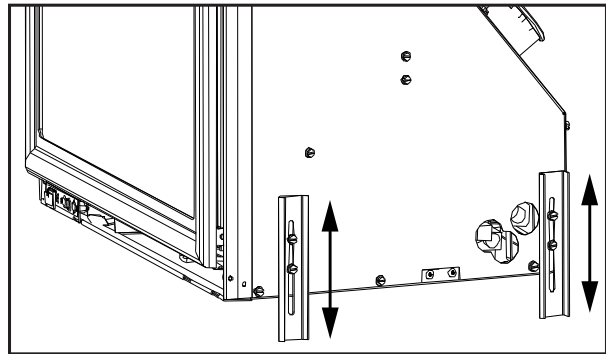

Figure 29: Levelling legs position.
5. If the fireplace opening is lower than 19" (483mm), remove the vent collar plate from the top of the insert by unscrewing the two (2) T-20 Torx screws located on the center top of the stove, and the four (4) screws at the rear draft hood box. Slide the collar plate backwards. Properly secure the vent collar plate to the flexible vent pipe liner(s) previously installed in the chimney. Be careful not to over-stretch the liner(s).
8. Using a 1/4" hex driver, adjust the levelling legs to ensure the unit is level and high enough if a base shelf and/or riser is to be installed. There are two (2) levelling legs on each side (shown in Figure 29).